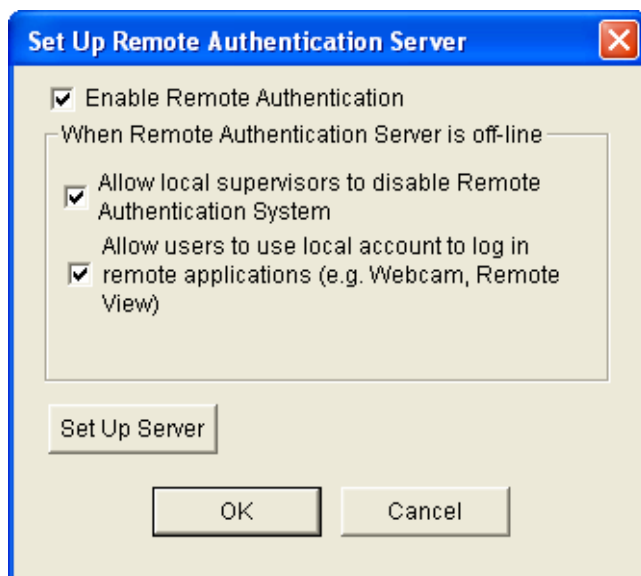

Figure 11-23
2. Click the **Set Up Server** button in Figure 11-23. This dialog box appears.